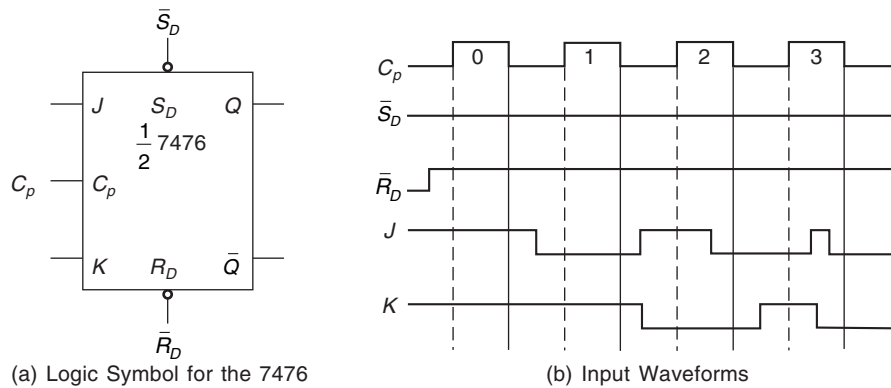

Fig. 12.63
30. Sketch the Q waveform for the 7476 positive pulse-triggered flip-flop shown in Fig 12.63(a) with the input waveforms given in Fig. 12.63(b).